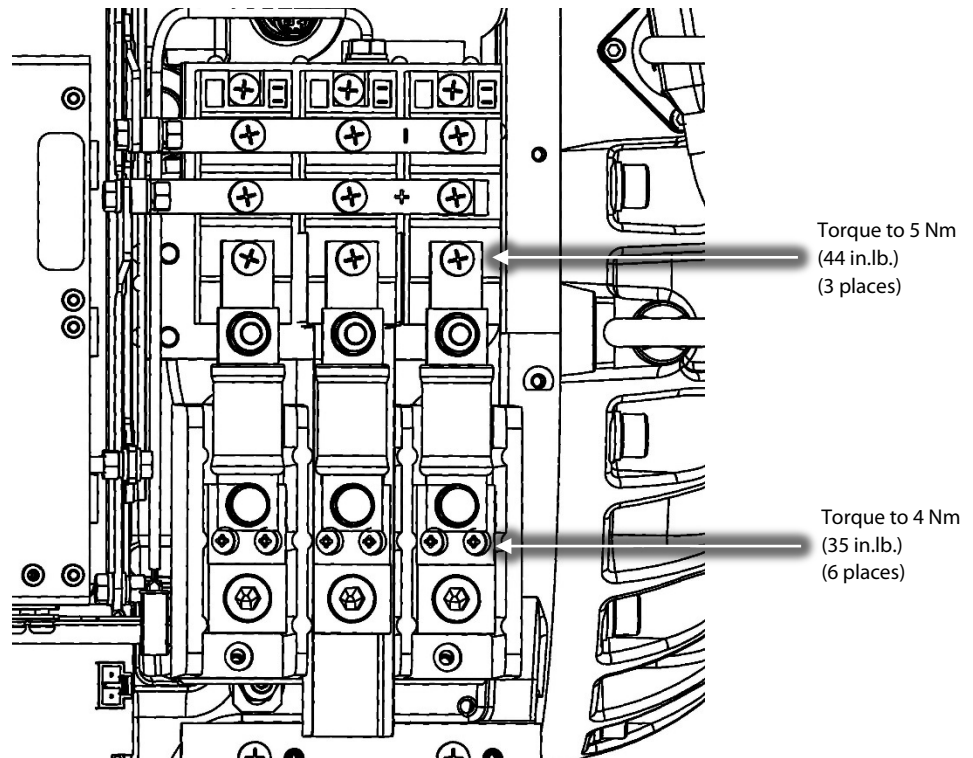
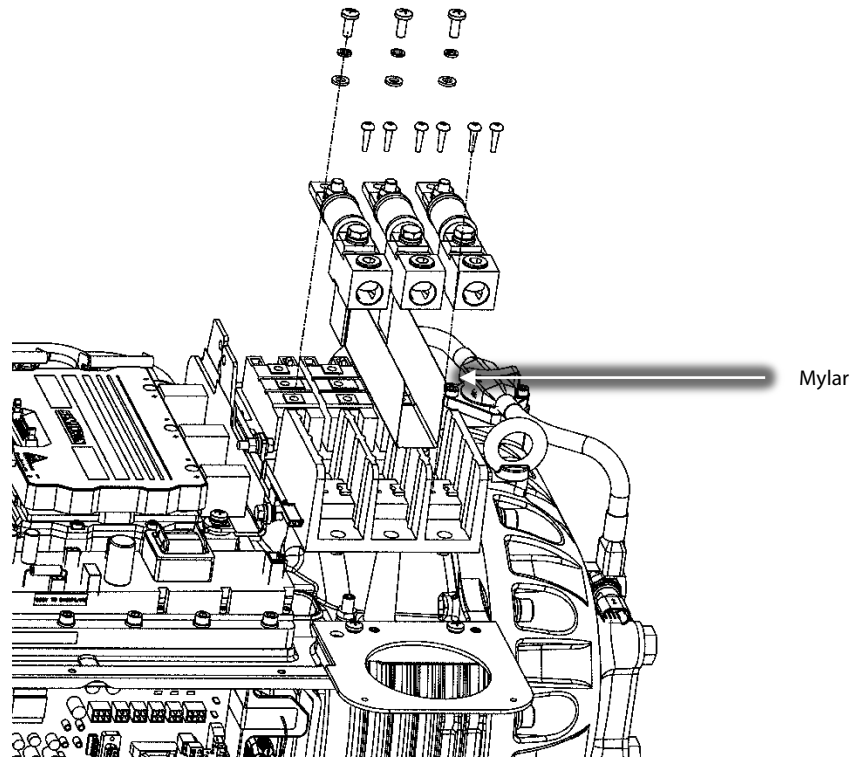

Figure 8 – Fuse Block Assemblies
Figure 9 – Mylar Removal
- Remove the three (3) fasteners that connect the Fast Acting Fuses to the SCR's and, noting their orientation, the 3-Phase input wires to the Soft Start AC/DC cable harness. Refer to Figure 8 (Fuse Block Assemblies).
- Remove the two (2) fasteners from each of the three (3) fuse block assemblies and set aside the fuse assemblies. Refer to Figure 8 (Fuse Block Assemblies) and Figure 9 (Mylar Removal).
18. Remove the insulating Mylar from the middle Terminal Block and set aside. Refer to Figure 9 (Mylar Removal).